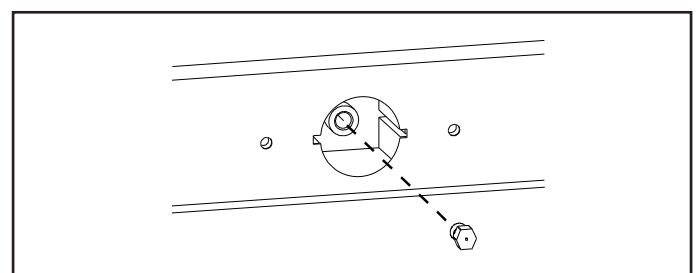

Figure 7
2. Remove the screw and withdraw the burner to reveal the injector as shown in figure 7.